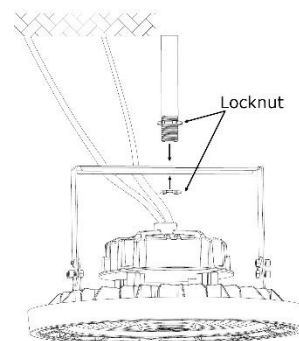

Figure 7
- 11: Add second lock nut to pipe to secure fixture and bracket to pipe. (Figure 7)